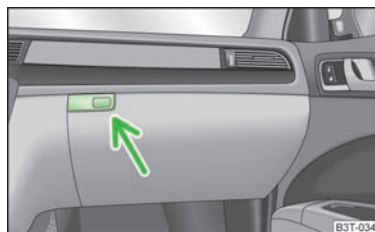

Fig. 88
- Press the button » Fig. 88 and the lid folds down.